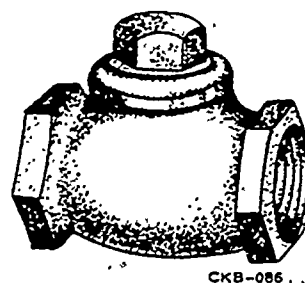
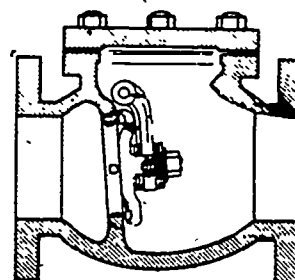

Figure 12. Check Valve.
Figure 13. Swing Check Valve with Brass Disc.
A check valve, as illustrated in figure 12, is used when it is necessary to control the flow in one direction only. Fluid flowing in the proper direction keeps the valves open and reversing the flow closes them automatically, as shown in figures 13 and 14. For installation purposes, most check valves are marked to indicate the inlet opening or direction of flow. There are two basic types of check valves (1) swing check valves, and (2) lift check valves. Each type has several variations that make them suitable for specific plumbing installations. A swing check valve should be used in conjunction with a gate valve and a lift check valve with a globe valve.
Swing check valves contain a hinged disc which seats against a machined seat in the tilted bridge wall opening of the valve body, as shown in figure 13. The disc swings freely on its hinge pin in an arc from a fully closed position to one parallel with the flow. The fluid or gas in the pipeline enters below the disc. Line pressure overcomes the weight of the disc and raises it, permitting a continuous flow. If the flow is reversed or back pressure builds up, this pressure is exerted against the disc, forcing it to close and stop the flow.